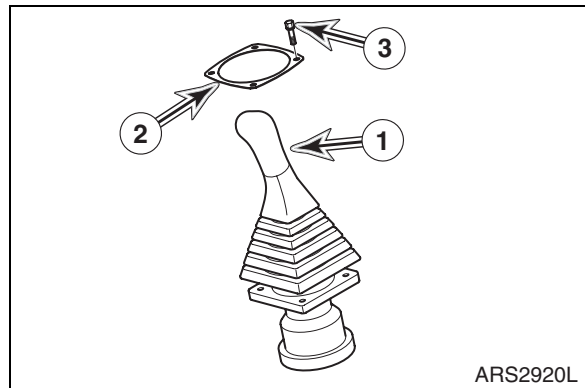

Figure 5
14. Remove four bolts (3, Figure 5) and cover (2), and pull remote control valve L.H. (1) out.
15. Tag and disconnect hoses from remote control valve L.H. (1, Figure 5). Plug and cap hoses and ports to prevent contamination from entering hydraulic system or component.